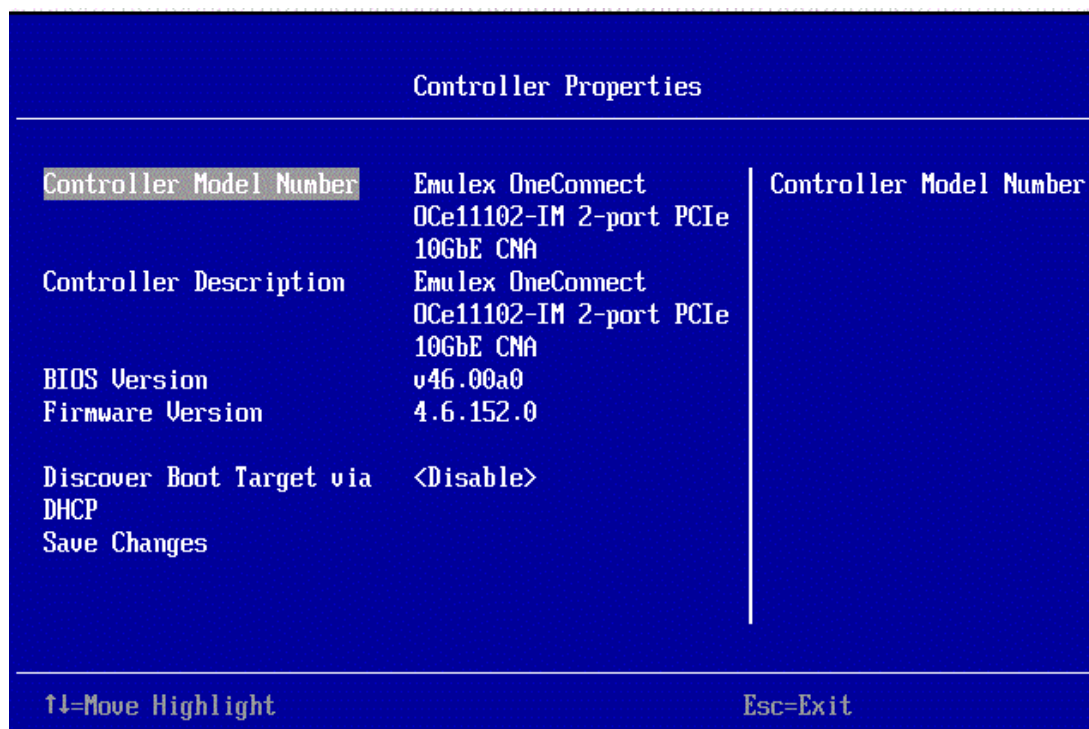

Figure 11-4 Controller Properties Screen
1. On the Controller Properties screen (Figure 11-4), set **Discover Boot Target via DHCP** to **<Enable>** and press **<Enter>**.
1. On the Controller Properties screen (Figure 11-4), set **Discover Boot Target via DHCP** to **<Disable>** and press **<Enter>**.